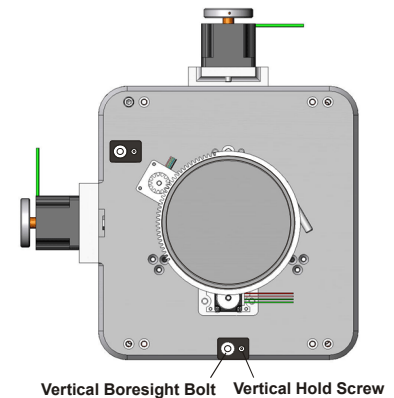

Figure 2-39 Vertical Boresight
1. Loosen the **Vertical Hold Screw**. See **Figure 2-39**.